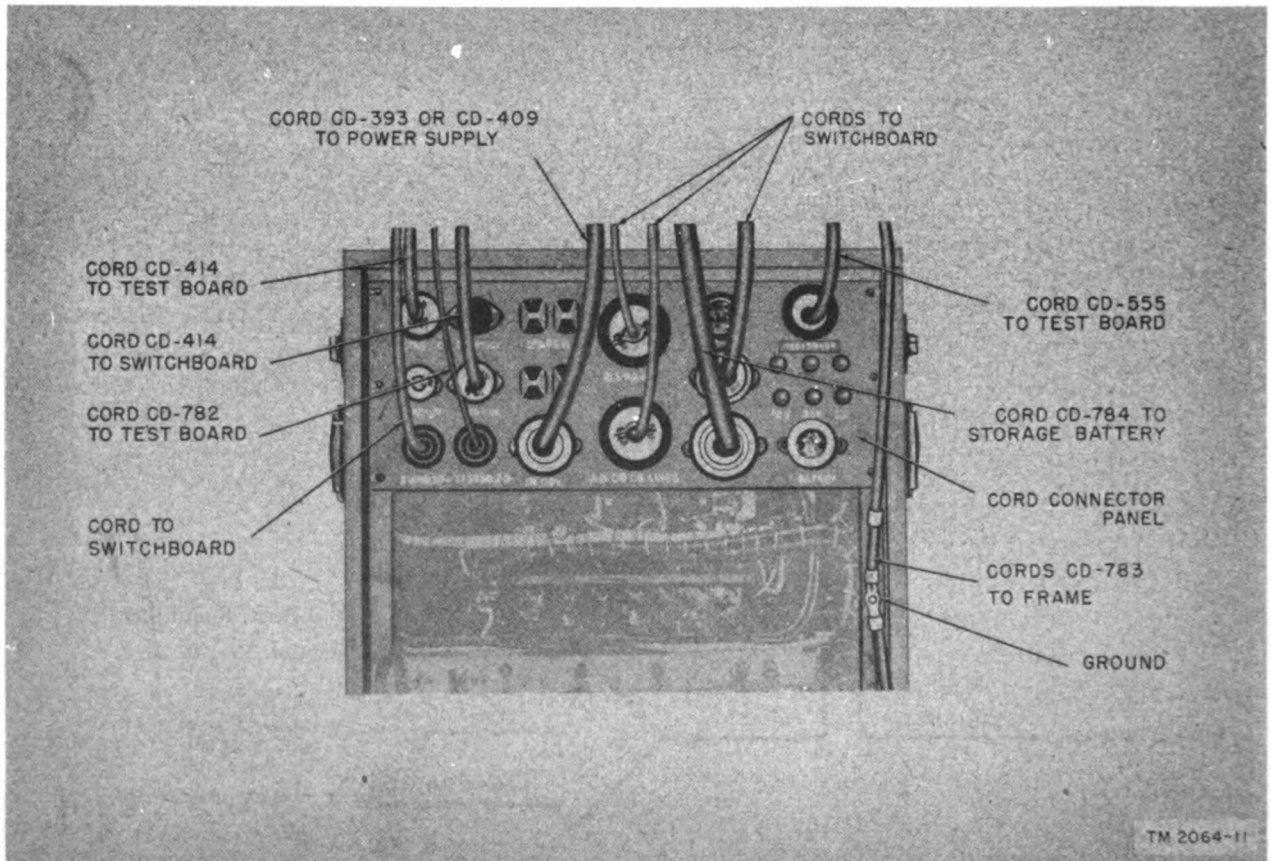

Figure 17. Method of inserting connection cords into cord connector panel.
c. CONNECTION RECEPTACLES. The receptacles to which connections are made on the cord connector panel are shown in figure 17. There need be no specific sequence in the manner of making connections once it is established that all circuit breakers on Panel BD-132 are in their OFF positions, that all adjustment switches on Rectifier RA-91-A are in their *extreme counterclockwise* positions, and that a ground has been arranged.
e. **A-C POWER.** A-c power input to Panel BD-132 for operation of Teling, Rectifier RA-91-A, and such circuits (through later connections) which use it, is accomplished through connection of Cord CD-393 or Cord CD-409 into the receptacle marked IN 110V. The connection is shown in figure 17. When the power source is a commercial one, either of 110 or of 220 volts, use Cord CD-393. However, if the source is one of 220 volts, connection at the source end is made to the secondary of Transformer TF-11, used to step down the voltage to 110 to 115 volts. When no commercial power source is available, use Cord CD-409 to make the connection between the panel and Power Unit PE-75-().
BD-132 from Battery BB-46 or its equivalent is by means of connection of Cord CD-784 between the battery and the receptacle on the cord connector panel marked 24V BAT 48V. In figure 17 this panel marking is hidden by the manner in which the cord is positioned. The emergency ringer, the alarm circuits, and the switchboard or switchboards may be powered from either the rectifier or battery, or by a combination of the two, the latter situation occurring at times of heavy traffic. Usually, however, the battery floats in the line.
g. **SWITCHBOARD CONNECTIONS.** Cords CD-414 (fig. 17) are used to connect 110-volt ac to the switchboard, or switchboards, and test board for heating purposes (when the equipment is used in extremely humid climates), and for use at convenience outlets for heating soldering irons, etc. Twenty-cycle ringing power to the switchboard or switchboards and the test board is taken by cords plugged into the receptacles marked SWBD 20~ and TEST BD 20~.
h. TESTING CONNECTIONS. On the right-hand side of the cord connector panel (fig. 17) are receptacles marked TEST BD 48V (above) and BAT 48V (below). Connection to the upper receptacle furnishes 48-volt power to the test-board. The lower receptacle is a d-c convenience outlet.
i. SPARE 110V. Receptacles to the left of the top center of the cord connector panel (fig. 17) marked SPARE 110V are used at the rear of the panel, when desired, for such purposes as plugging in an electric soldering iron, lamps for trouble location, etc.